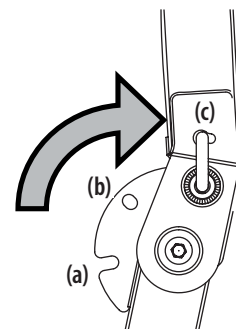

Figure 5
2. Move the ROPS into the desired position. See Figure 5.